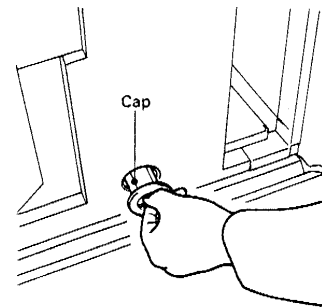

Fig. 4
5) Pull out the cap at the front of the plastic body 1" or more. See Fig. 4.